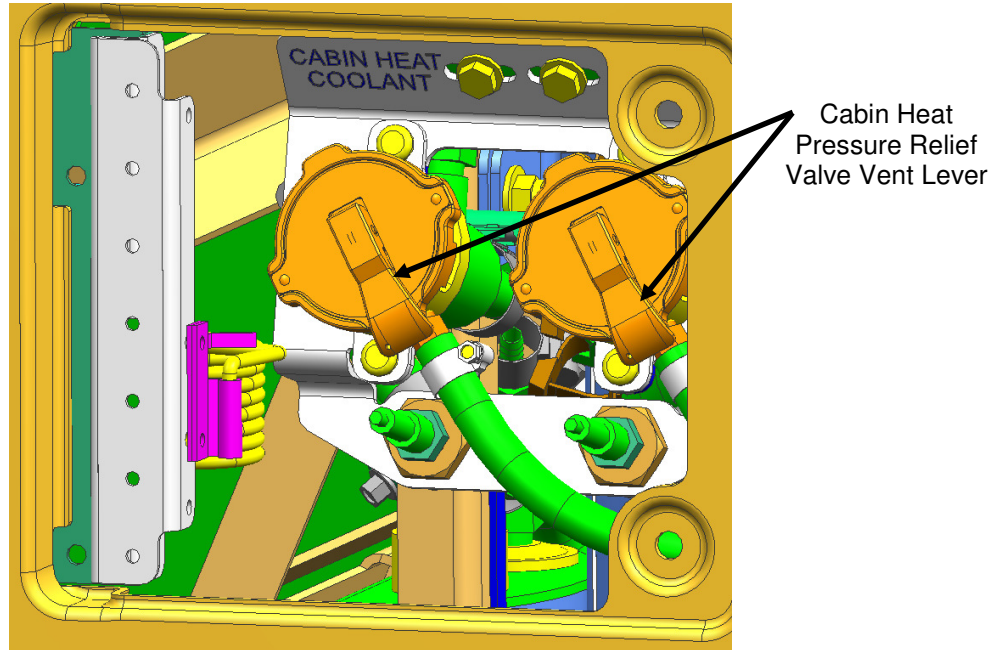

Figure 1: Cabin Heat Surge Tank Pressure Relief
3. Relieve the cooling system pressure by lifting the vent lever on the cabin heat and engine coolant surge tank pressure relief caps. See Figure 1.